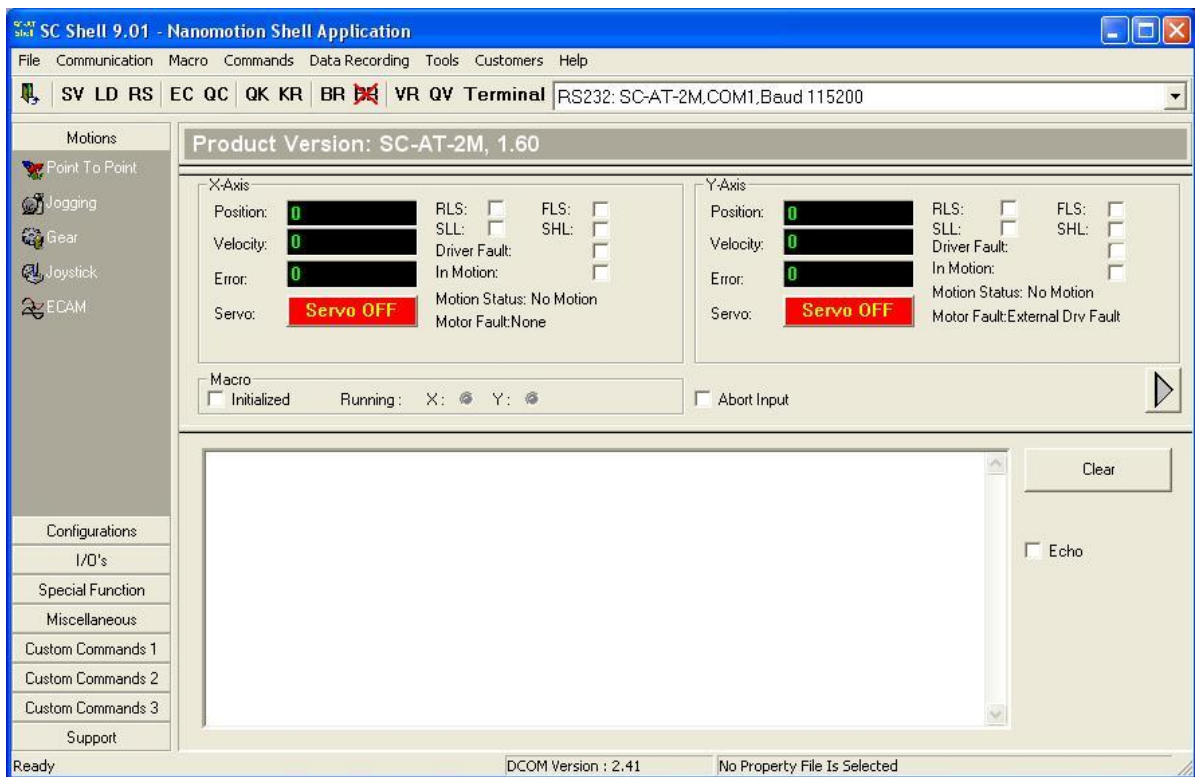

Figure 13: Nanomotion Shell Application Main Screen
Part IV thoroughly covers all the details of the Nanomotion Shell Application (see Figure 13), related to macro programming support for the development, downloading, and debugging of FlexDC macros.
1. Verify that the FlexDC is connected to a communication line, and the communication link is active, refer to Figure 13 (also, refer to the "FlexDC User Manual" for "Quick Start" instructions).